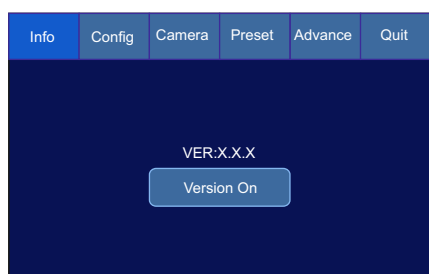

Figure 4.7
- 1) **INFO:** It allows you to check the firmware version of both the controller and microphone unit. When clicked, the version info will flash on the display of the microphone units. (See Figure 4.7, 4.8 & 4.9)